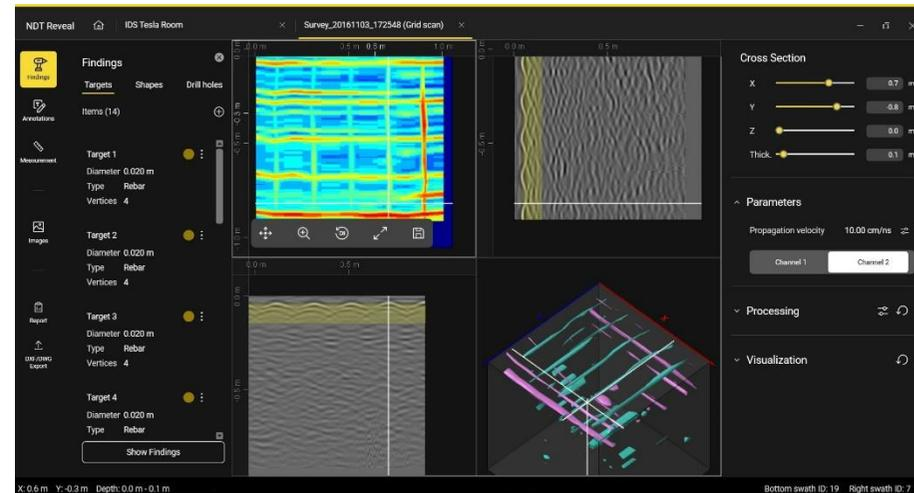

Fig. 33 Survey Analysis
1. Select the survey to work on (Fig. 33), and toggle the  icon,